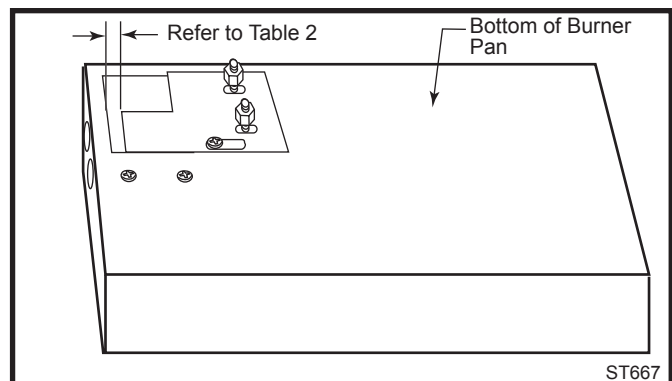

Fig. 45 Adjust air shutter on bottom of heater. Refer to Table 2 for correct position.
2. Undo the right and left latches at the top of the glass frame. (Page 22, Fig. 45)
3. Air shutter adjustment. The unit is shipped from the factory with the air shutter open 1". For LP units only, the air shutter could be closed further. Refer to Table 3 for minimum air shutter opening. The air shutter is located on the bottom of the burner to the left. (Fig. 45)